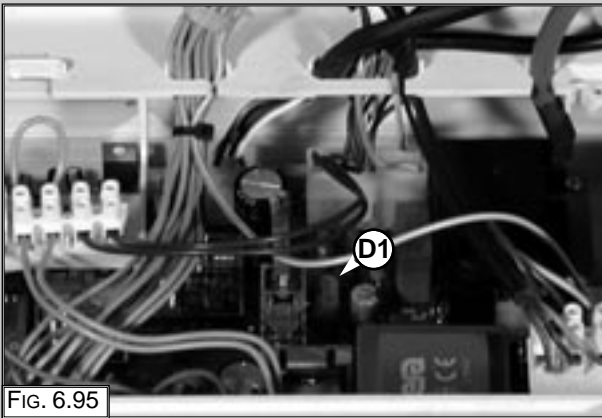

FIG. 6.95
2. Remove the fuses by pushing and rotating fuse holders "D1" (FIG. 6.95).